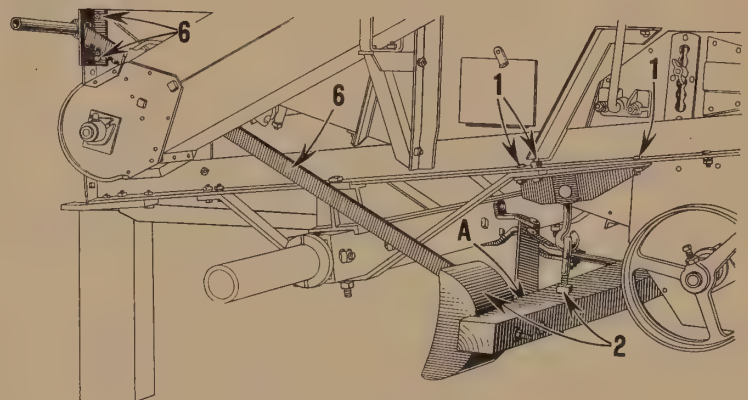

Fig. 27
6. (Fig. 27.) Set brake control hand lever into position shown and bolt bracket to separator rear upright angle.
7. (Fig. 27.) Secure lower end of hand lever to R. H. end of pull bar with bolt and trunnion. See "A".